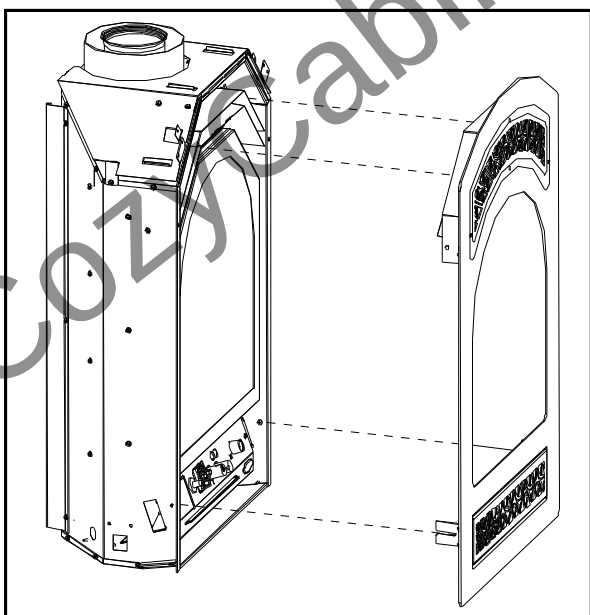

Figure 56: Installing Chalet onto The Retreat.
1. Ensure the lip with the tabs on the fascia is resting on top of the one on the Retreat (see Figure 56).
2. Slide the two (2) mounting slots at the bottom of the fascia onto the studs on the Retreat (see Figure 56 &